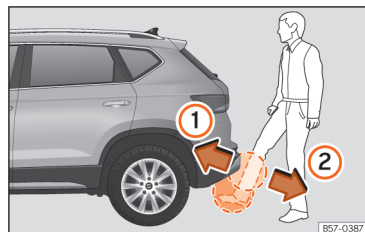

Fig. 62 Rear lid with sensor-controlled opening (Easy Open).
- With a brisk movement, bring your foot and lower leg as close as you can to the bumper. The lower part of the leg needs to be close to the upper sensor area and your foot to the lower sensor area **>>>** **Fig. 62 ①**.
- Quickly remove your foot and lower leg from the sensor areas **>>>** **Fig. 62 ②**. The rear lid will open automatically.